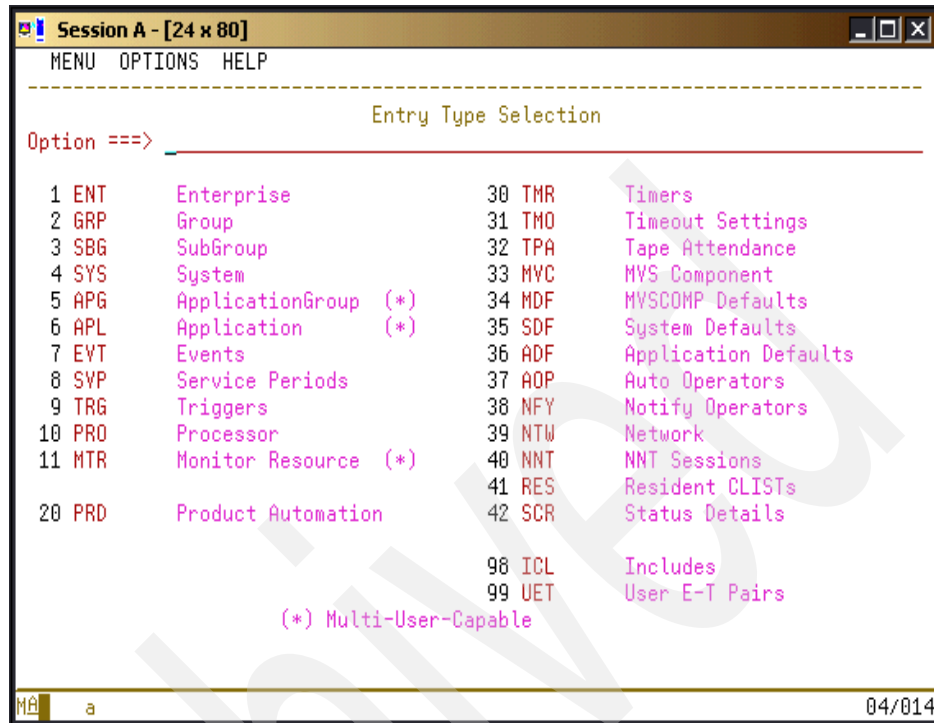

Figure 4-13 Entry Type Selection panel
Select option 1 - **Open**. The Entry Type Selection menu that is shown in Figure 4-13 on page 115 displays.
1. Select option **37 AOP Auto Operators** on the Entry Type Selection panel (Figure 4-13 on page 115). The Entry Name Selection panel that is shown in Figure 4-14 displays.
To define each application, enter option **6 APL** - Application on the Entry Type Selection panel as shown in Figure 4-13 on page 115. The Entry Name Selection panel that is shown in Figure 4-19 displays.